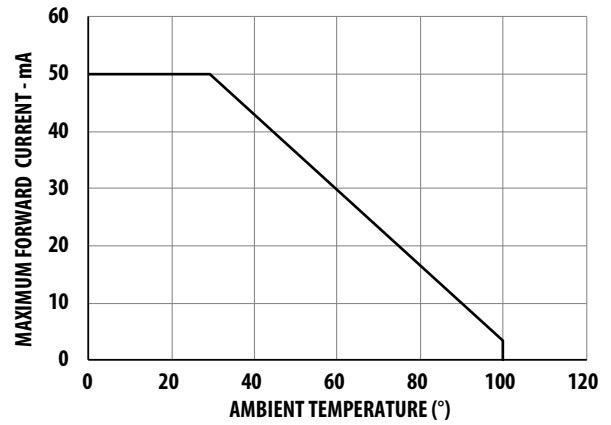

Figure 4. Maximum Forward Current vs Ambient Temperature
1. Derate linearly as shown in Figure 4 & 9